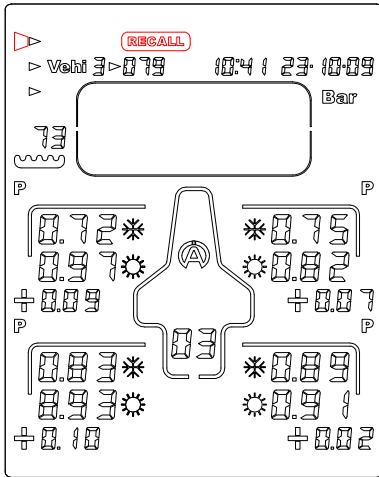

Figure 8
- 1) With the help of the buttons  , select the icon « **RECALL** » (figure 8)